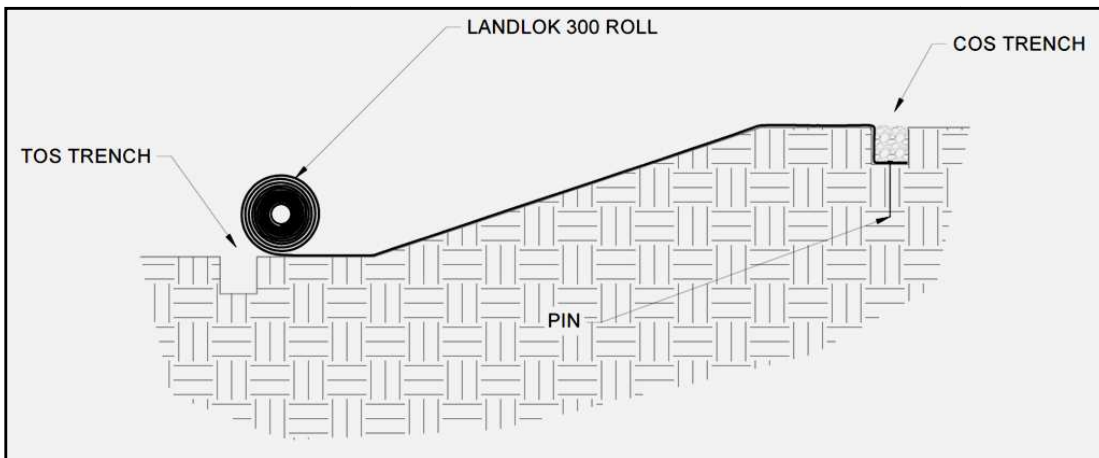

Figure 6: Placement of Landlok 300 across Slope
5. Unroll the Landlok 300 roll on the slope surface in the area to be armored (Figure 6). Ensure that Landlok 300 has intimate contact with the ground and all irregular surfaces beneath Landlok 300 are removed.